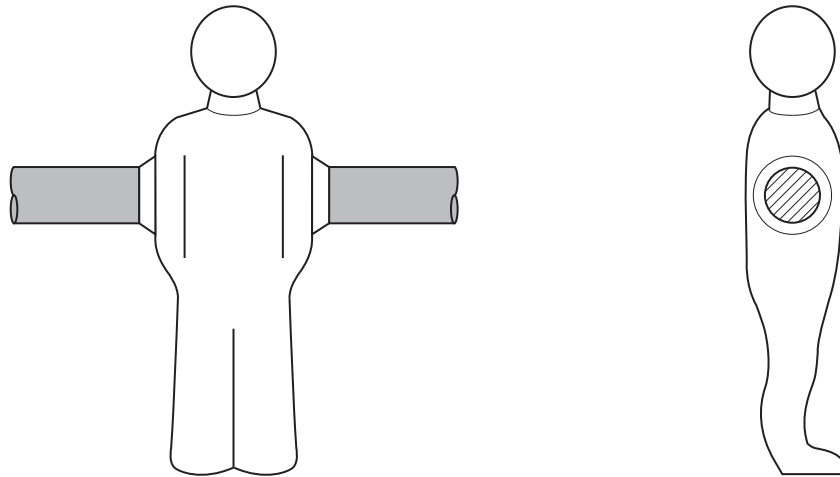

Fig. 5
- (c) (i) Fig. 5 shows one footballer and the metal rod to which it is attached. The footballers are made from injection moulded plastic.
Add sketches and notes to Fig. 5 to show how the footballer could be secured to the metal rod. [2]